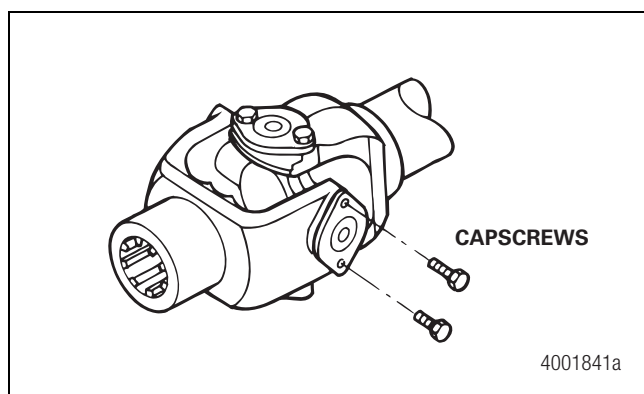

Figure 4.8
4. Align the cover plate holes and the yoke ear. Figure 4.8. Install the bearing cover plate flush against the milled surface of the yoke.